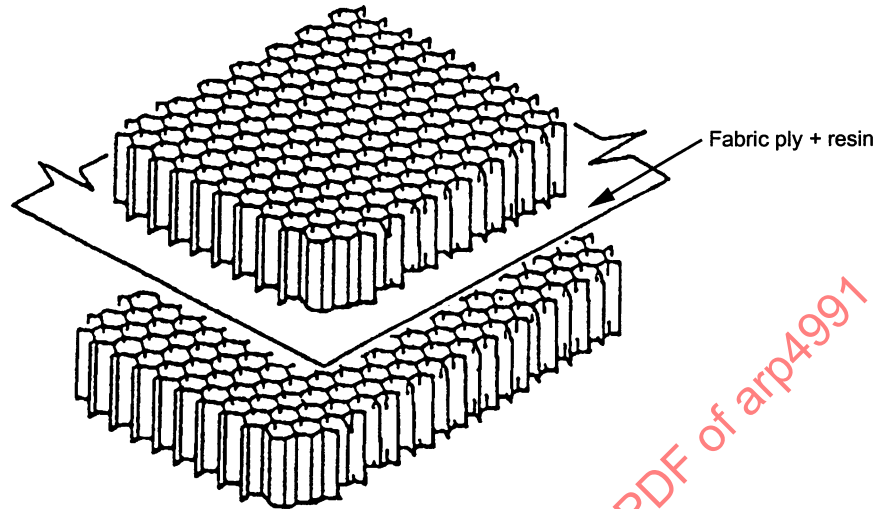

FIGURE 7 - Thick Core Plug Preparation Method
5.3.4 Thick Core Plug Preparation Method (Figure 7): If the honeycomb available has insufficient thickness to make the honeycomb plug, the plug can be made from two or more pieces.